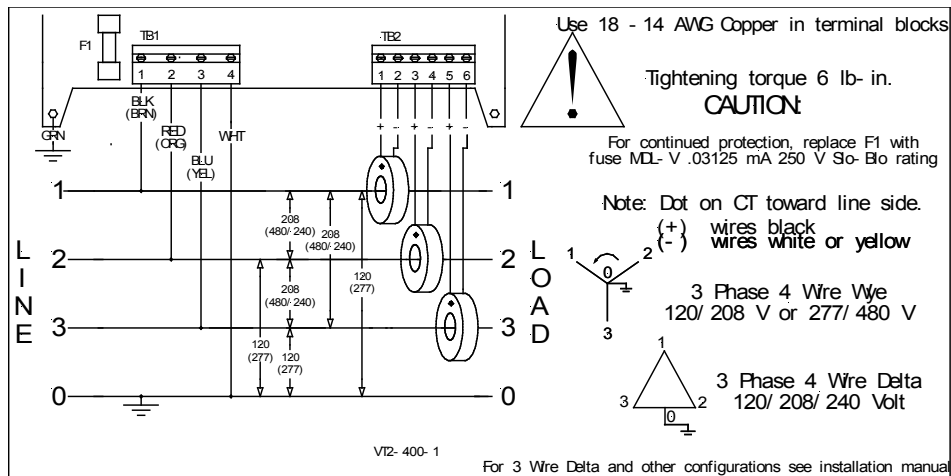
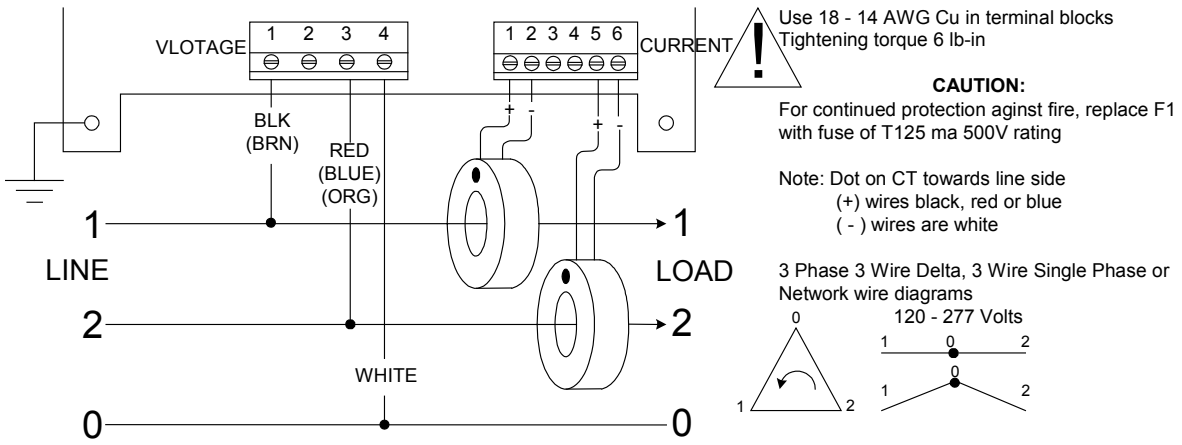

Figure 3 The MMP Voltage Connections will be similar to the TB1 Connector in the above drawing.
Figure 4 Wiring Diagram for a **3-Phase 3-Wire Delta, Single Phase 3 Wire & Network Service**
Step 5 Referring to the wiring diagram on the inside of the meter cover, terminate CT, voltage, ground, and neutral leads. See Figure 3 for a 3 Phase 4 Wire Wye or 4 Wire Delta service and Figure 4 for a 3 Phase 3 Wire Service.
- c) Using the wiring diagram found on the inside of the meter cover, make the appropriate voltage and current lead connections. Refer to Figure 3 for a wiring diagram for a 3-Phase 4-Wire Wye or Delta service and Figure 4 for a 3-Phase 3-Wire Delta service.